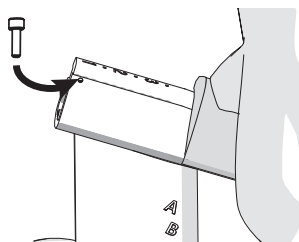

Figure 10
2. Insert one bolt **3** into the post from either side and fully tighten it to set the travel limit (Figure 10).